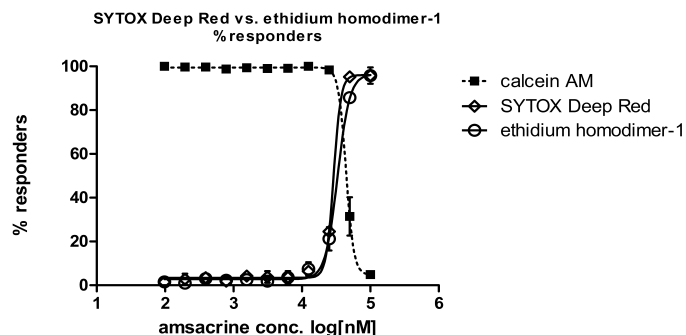

Figure 5 Dose response curve of amsacrine drug while detecting viability of U2OS cells.
- Suitable for use with fluorescent microscopes (Figure 4), High Content Analysis (HCA) multi-well plate fluorescence scanners (Figure 5), and other fluorescence detection systems.